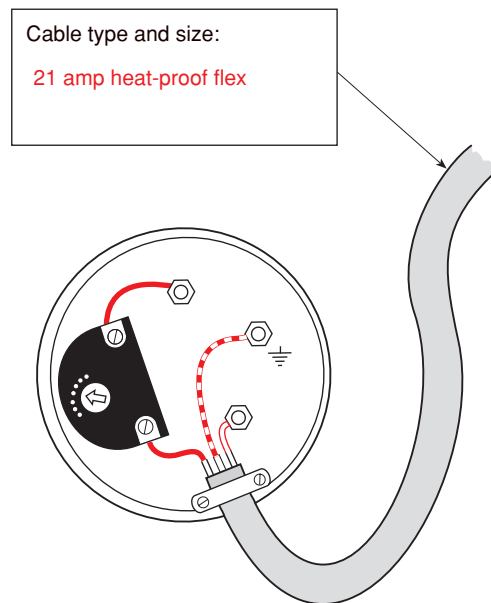

Figure 27
- (69) Figure 27 shows the top of an immersion heater with the cover removed; using coloured pencils (or the key in Figure 26) complete the illustration to show the electrical connections to the heater element. Also, in the space provided, state the size and type of flex to be used. (Page 285.)